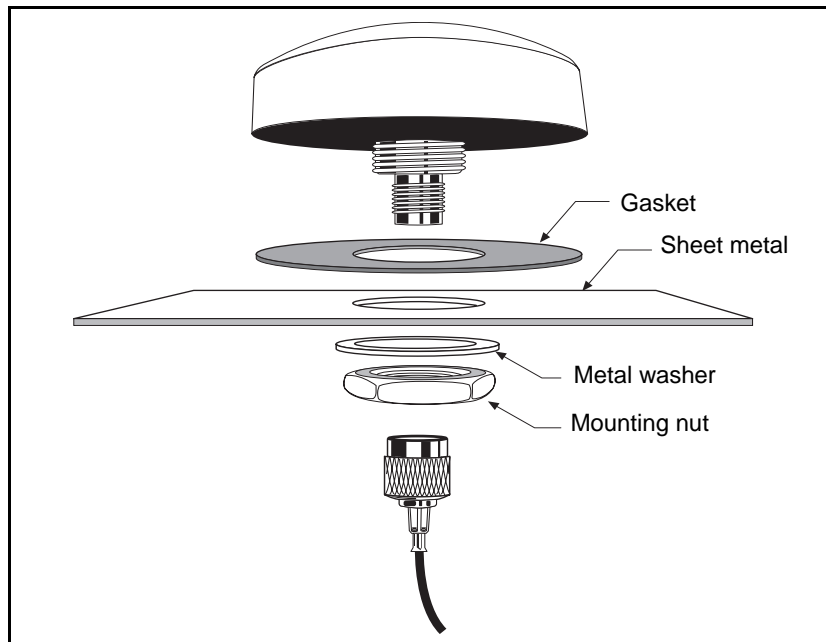

Figure 2.11 Miniature bulkhead mount GPS antenna without flange (PN 32434)
Figure 2.11 shows the bulkhead mount GPS antenna without flange. For more information, see Appendix A, Specifications.
3. Mount the gasket as shown in Figure 2.11 on page 31.
5. Connect the antenna cable as shown in Figure 2.11.